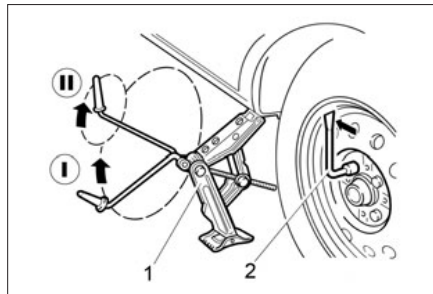

Fig. 54. Lifting the vehicle when replacing the wheels
- loosen the replaced wheel fastening bolts with combination wrench 2 (Fig. 54) for one turn;